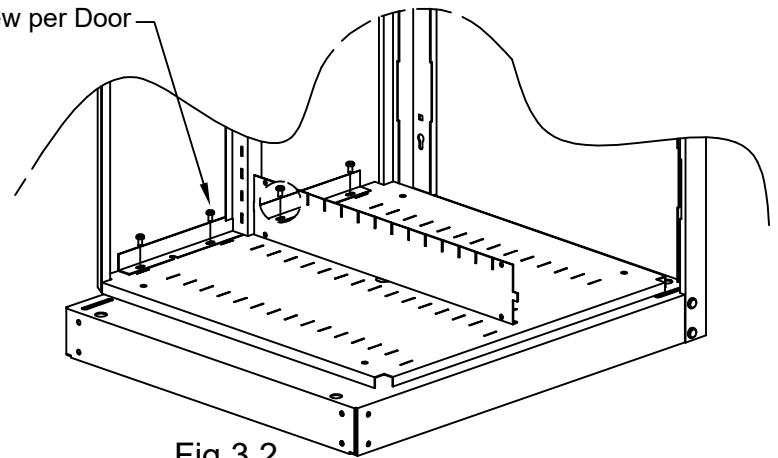

Fig 3.2
Secure doors to the bottom swivel pan using (4) 1/4-20x1/2" Pan Head Screws per door. (Fig. 3.2). Do not fully tighten screws.